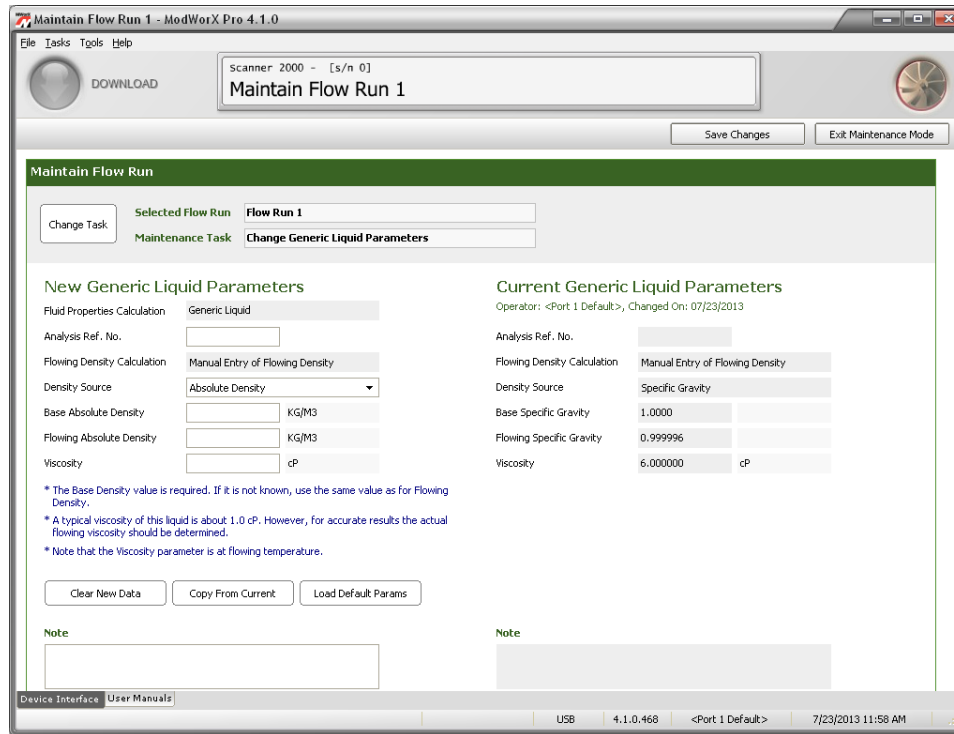

Figure 10.17
- b. Click **OK** to save the settings and return to the Maintain Flow Run screen (Figure 10.17, page 148).